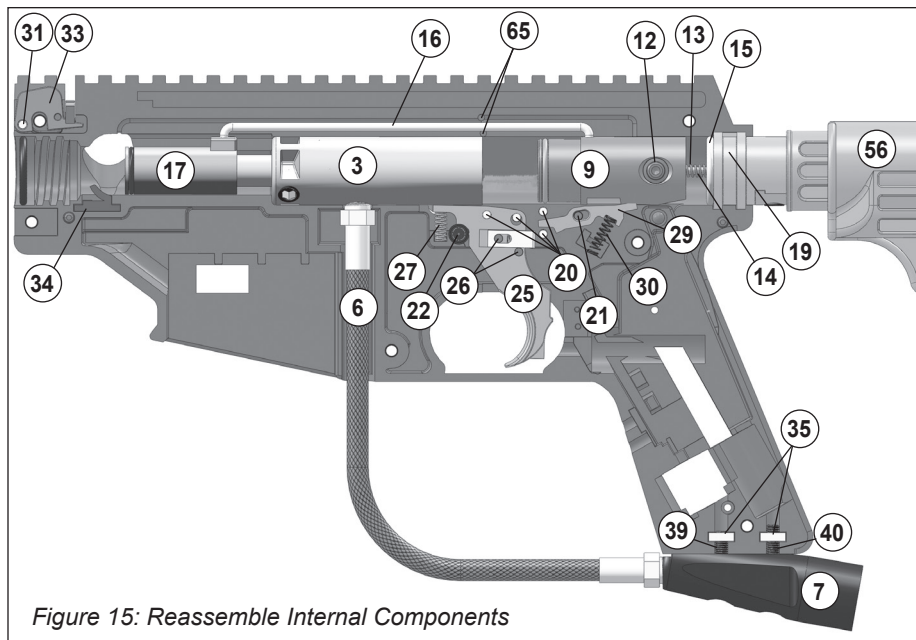

Figure 15: Reassemble Internal Components
9. To remove the left-side **Receiver** (36), unscrew six receiver bolts (37 and 38). Then carefully lift the left-side receiver to access the internal parts.
10. With left half removed (as shown in Figure 15), pull the **End Cap** (19) out to remove the **Bumper O-Ring** (15), **Guide Pin** (14) and **Drive Spring** (13). These parts must be removed before the **Rear Bolt Handle** (12) can be removed.
1. Refer to the Figure 15 and double check that the following parts are in place: Trigger Assembly and Pins (20, 25, 26, and 27), Safety (22), Sear Pin (21), Sear (29), Sear Spring (30), Feed Elbow Latch (33), Pin (31), Spring (32, not shown), Front Bolt* (17), Ball Latch (34), Linkage Arm* (16), Linkage Arm Pins (65, qty 2), Rear Bolt* (9), Drive Spring* (13), Guide Pin* (14), Bumper O-ring (15), End Cap (19), and two Air Supply Adapter Nuts (35)